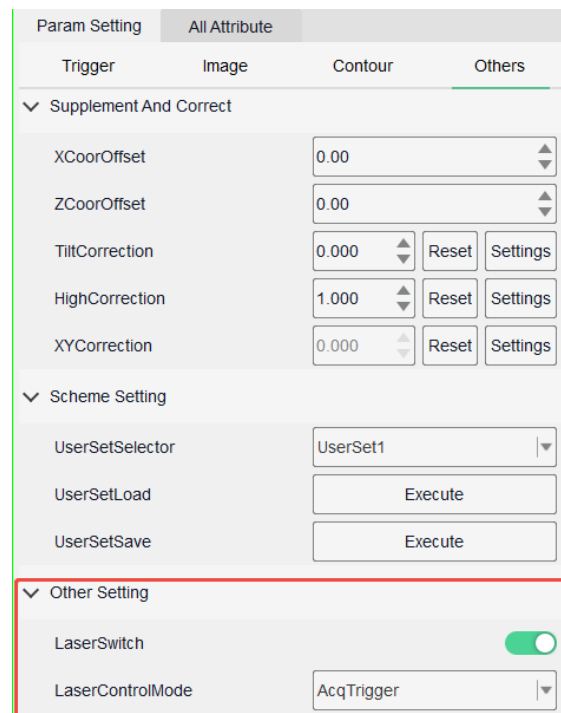

Figure 3.1.16 Other Setting
- Automatic Laser Control: Constant On: When the camera is connected and the laser enable button is activated, the laser remains constantly on. Capture Only: When the camera is connected and the laser enable button is activated, the laser is only enabled during the capture process and turns off upon capture completion. As shown in Figure 3.1.16.